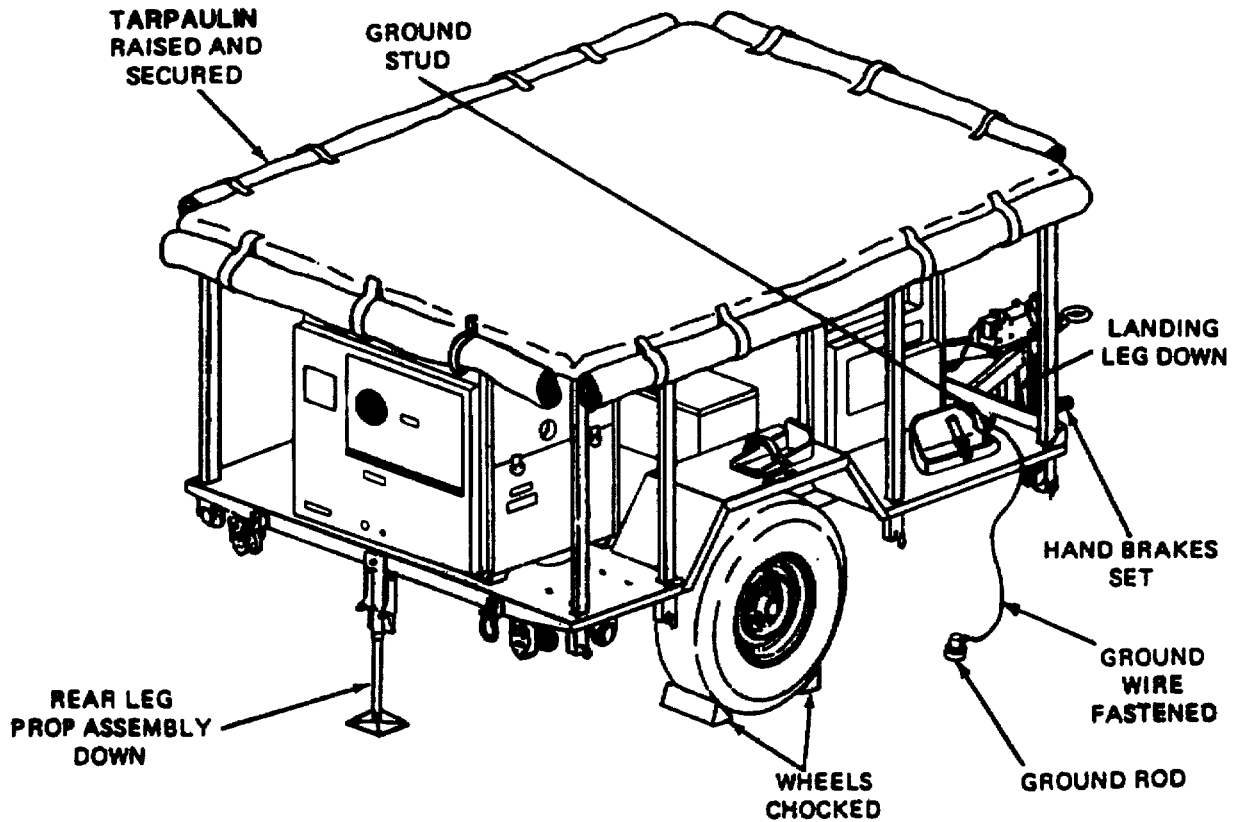

Figure 4-1. Installation of Power Plant; AN/MJQ-33 Shown.
- (1) Remove the depreservation guide. The depreservation guide explains what was done to the equipment prior to packaging and what has to be done to place the power plants into operation.
- (2) Refer to paragraph 4-1e(1) and (2) for initial servicing procedures for the generator sets and trailer.
**4-2. INSTALLATION (SEE FIGURE 4-1).**